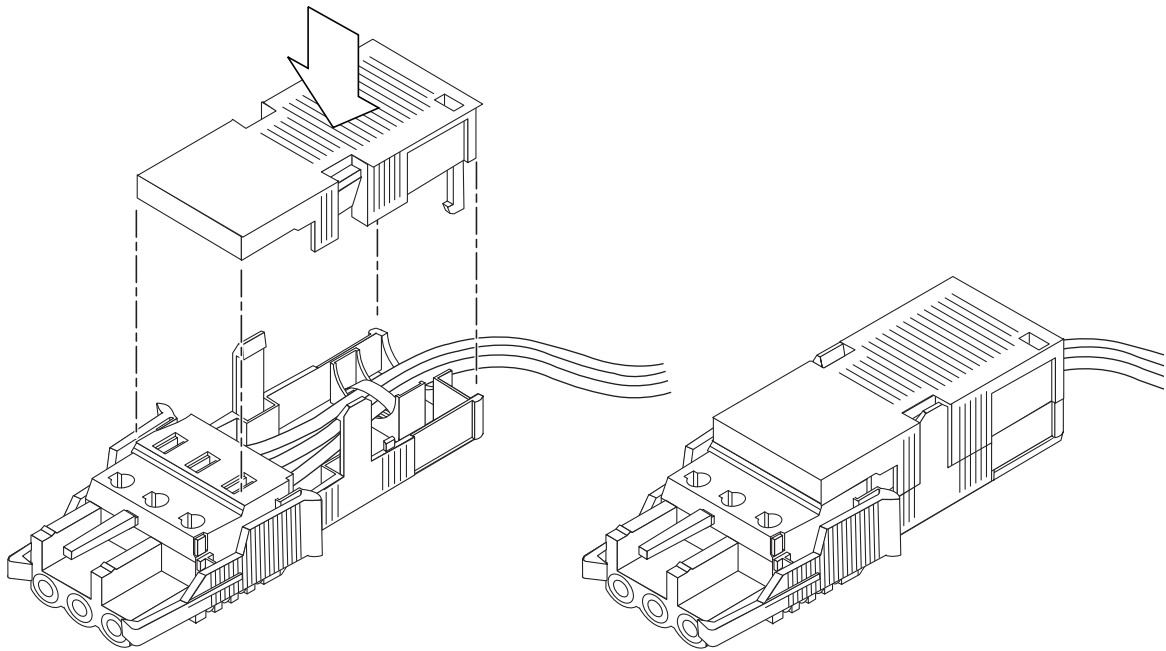

FIGURE 3-9 Assembling the Strain Relief Housing
- 5. Lower the top portion of the strain relief housing so that the three prongs on the top portion fit into the openings in the DC connector, and push the top and bottom portions of the strain relief housing together until they snap into place (see FIGURE 3-9).**